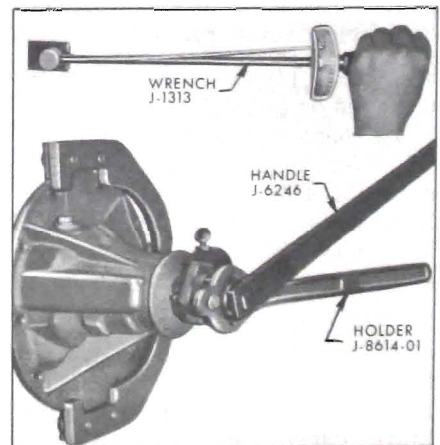

Figure 6-24—Tightening Pinion Nut
ion flange with Holder J-8614-01. Torque pinion nut to 80 ft. lbs. using Torque Wrench J-1313 on outer end of Handle J-6246. (This amounts to an actual 250 ft. lbs. torque at nut.) See Figure 6-24.
6. Reinstall pinion, bearings, and pinion flange carefully in carrier with new thickness preload spacers. Install pinion nut and washer. While holding pinion flange with Holder J-8614-01, tighten pinion nut to 80 ft. lbs. using Torque Wrench J-1313 in outer end of Handle J-6246 as shown in Figure 6-24.